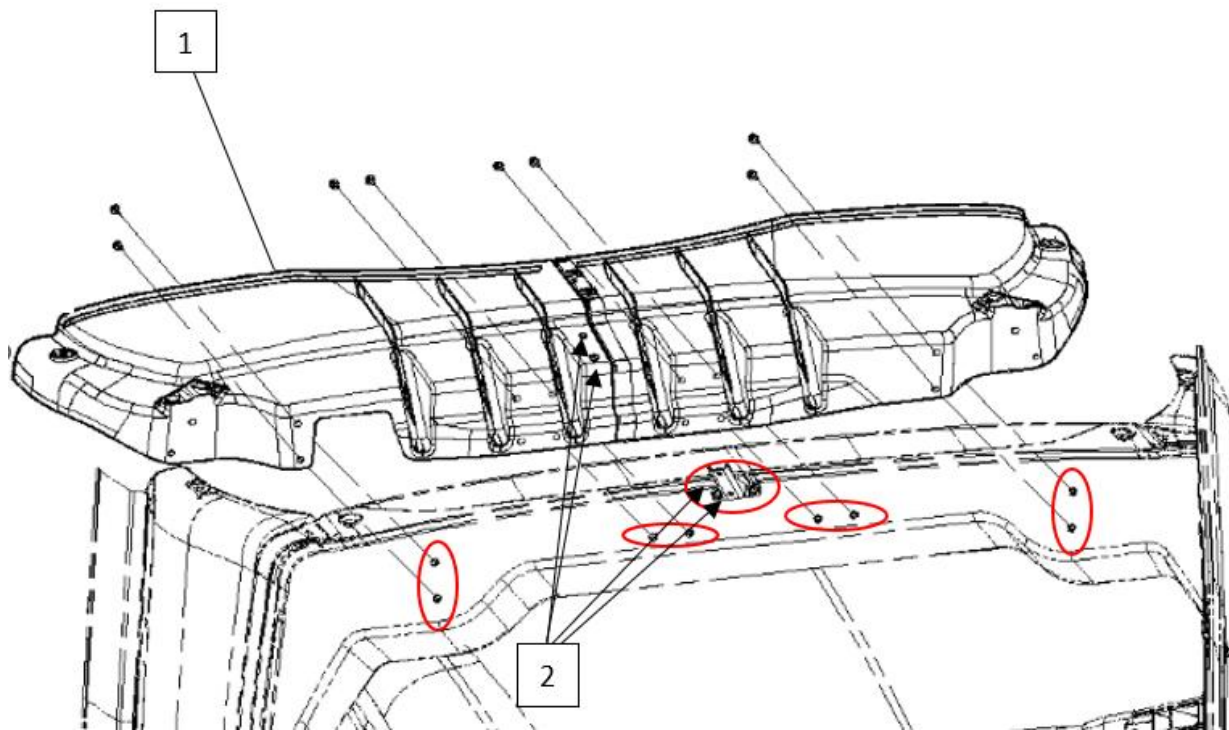

Figure 4: Air deflector extension installation
8. Take the whole extension from line 6 and install the center portion under the the support with the bolts going up through the center of the extension into the support (Figure 4, Item 2).